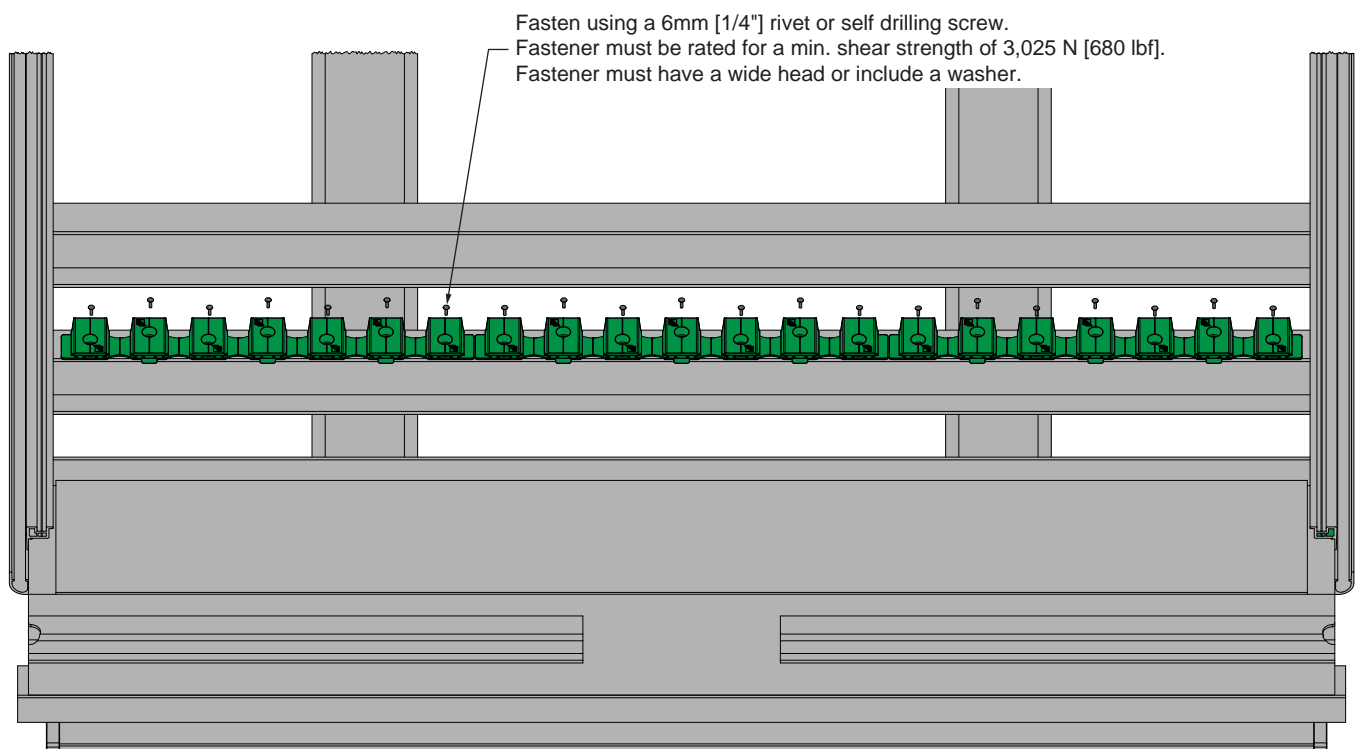

Figure 2
2. Determine how many Strip Bearings per cross member you will need. Set the Strip Bearings end to end along the width of the cross member. Use a spacer bar, or measure the center to center from one Strip Bearing to the next to ensure the Strip Bearings are properly spaced (fig. 2).
6. Fasten at each bearing location making sure cross members are clean of drill shavings or other debris that will interfere with the flat placement of the Strip Bearings (fig. 2).